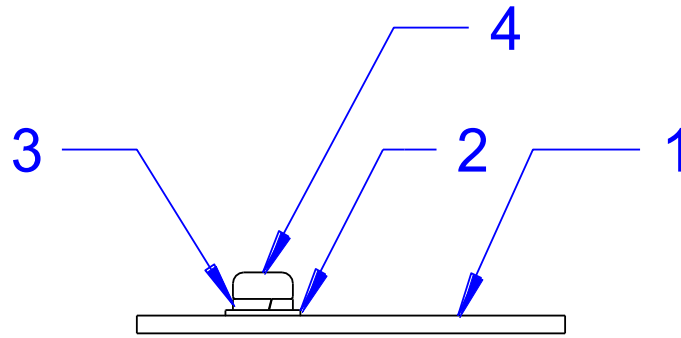

Fig. 33 – Set on the battery module
- Fix the new battery module, order Pad / Spring pad / Screw according to Fig. 33 using the T10 screwdriver.